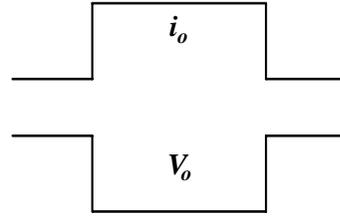
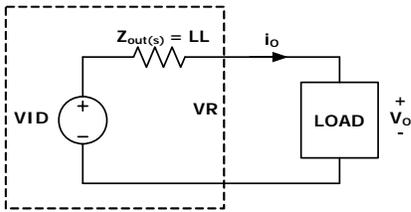

FIGURE 14. DESIRED LOAD TRANSIENT RESPONSE WAVEFORMS
FIGURE 20. VOLTAGE REGULATOR EQUIVALENT
Assuming the compensator design is correct, Figure 14 shows the expected load transient response waveforms if C_n is correctly selected. When the load current I_{core} has a square change, the output voltage V_{core} also has a square response.
Figure 14 shows the desired load transient response waveforms. Figure 20 shows the equivalent circuit of a voltage regulator (VR) with the droop function. A VR is equivalent to a voltage source (= VID) and output impedance $Z_{out}(s)$. If $Z_{out}(s)$ is equal to the load line slope LL, i.e. constant output impedance, in the entire frequency range, V_o will have square response when I_o has a square change.